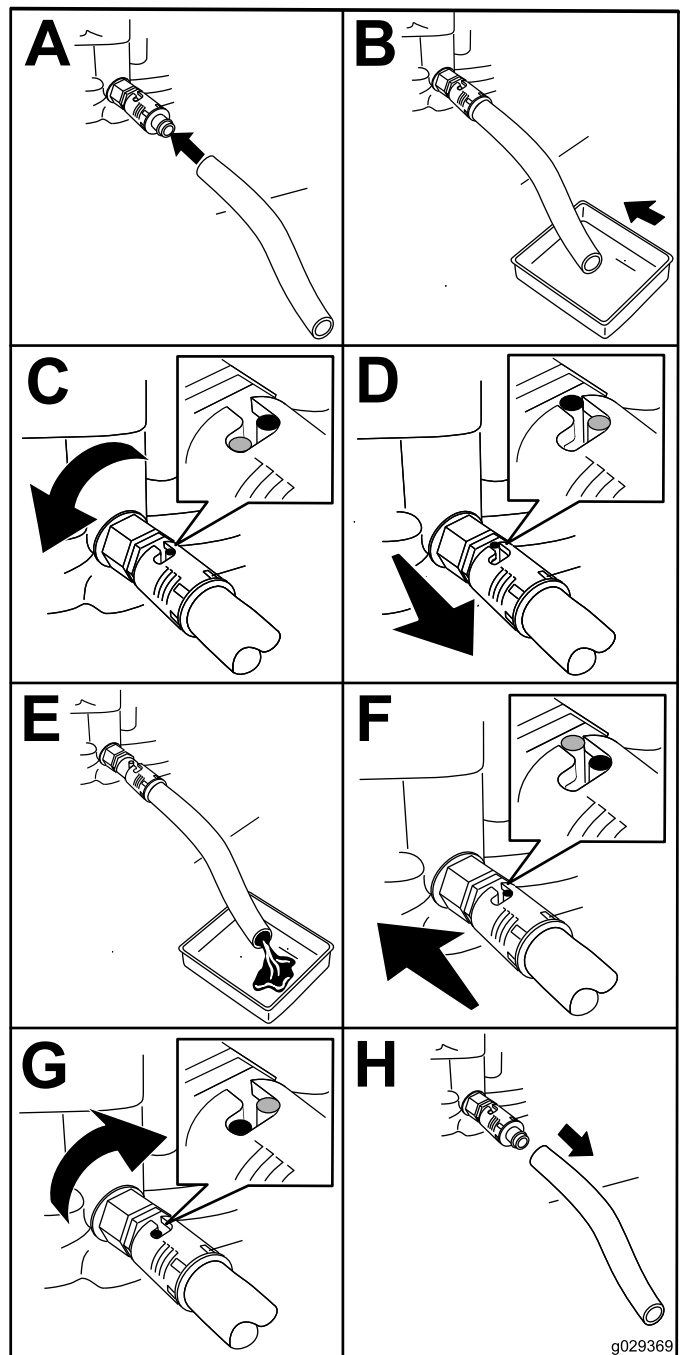

Figure 28
4. Drain the oil from the engine (Figure 28).